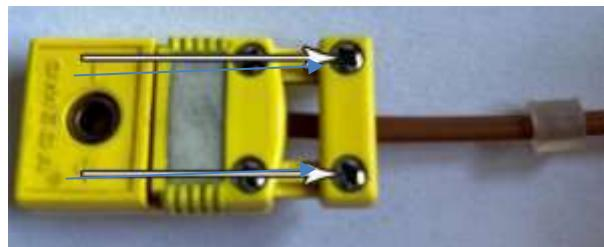

Figure 146
(12) Tighten contact washer screws until wires are secure. Do not over tightened, as damage to wire can occur.
(13) Install top cover, ensuring red grommet seats into recess in cover as shown in Figure 146.
(14) Tighten the two screws that secure the cover, indicated by the arrows in Figure 146.